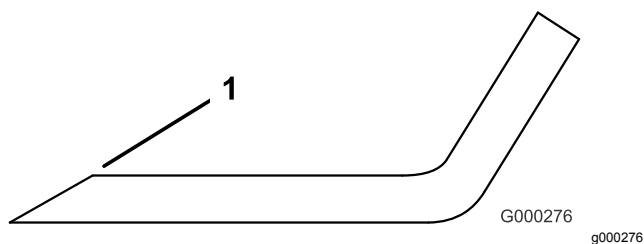

Figure 114
3. Examine the cutting edges of all of the blades and sharpen the cutting edges if they are dull or nicked (Figure 114).
to ensure sharpness (Figure 114). The blade remains balanced if the same amount of metal is removed from both cutting edges.